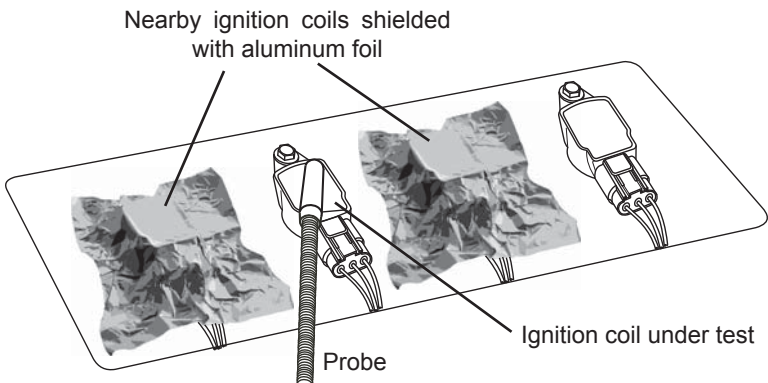

Fig. 5 - Avoiding interference by shielding nearby ignition coils
- An easy way to obtain consistent measurements, is to position the capacitive pick-up either at 90° or parallel to the spark plug wire (Fig 5), and then repeat the same positioning for every spark plug wire